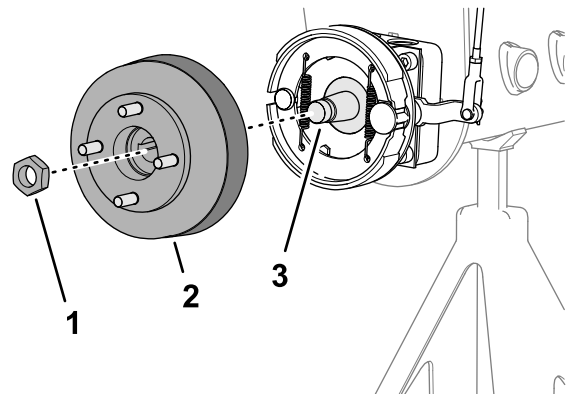
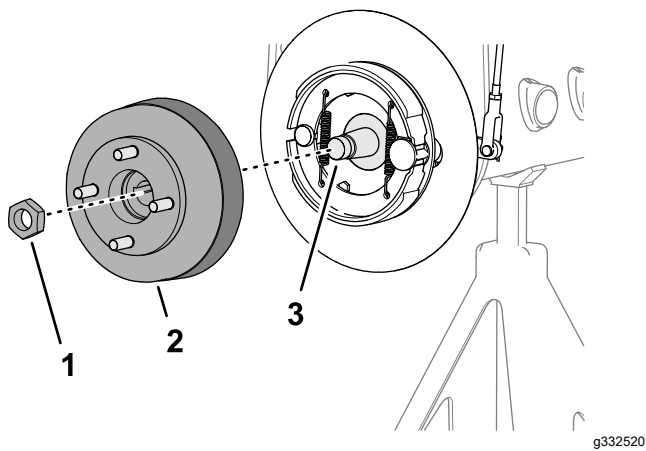

Figure 73
Figure 74
3. Assemble the wheel hub and brake drum onto the wheel-motor shaft (Figure 73 or Figure 74).
4. Secure the wheel hub to the shaft with the locknut (Figure 73 or Figure 74), and tighten by hand.